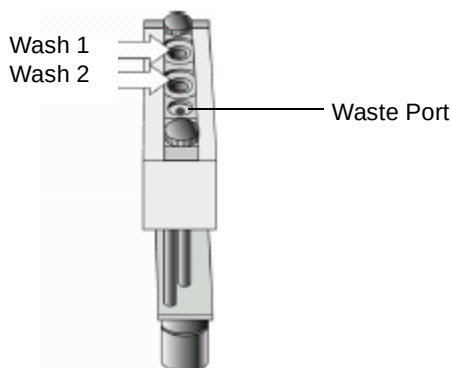

Figure 2-42 Wash Station Reference Positions
The reference positions for the two wash stations are the holes above the wash station glass liners (see Wash 1 and Wash 2 in Figure 2-42). Center the lower needle guide in each hole (in the X and Y directions), with the bottom of the lower needle guide lightly touching the surface of the wash station module (in the Z direction).
The reference position for the waste port is a hole slightly larger than the needle guide in front of Wash 2 (see Waste Port in Figure 2-42). Center the lower needle guide in the reference hole (in the X and Y directions), with the bottom of the lower needle guide lightly touching the surface of the wash station module (in the Z direction).
4. Center the lower needle guide in the reference hole (see Figure 2-42) as follows: